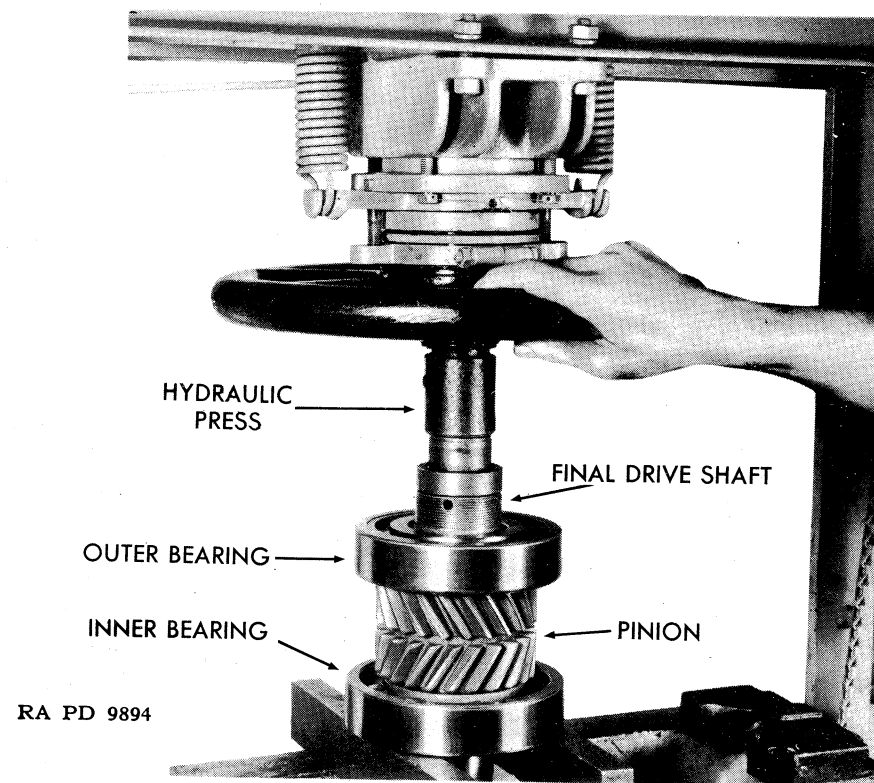

FIGURE 82—Removal of bearings and pinion from drive shaft.
(5) Remove bearings and pinion from drive shaft (fig. 82).
Secure drive SHAFT (D27413) in vise equipped with copper jaws. Remove cotter PIN (9/32 x 4½ in.). Use a 3-⁹/₁₆-in. open end wrench and remove NUT (B132938). Remove shaft from vise and place in arbor press as shown in figure 82 with the bars, under the inner bearing, placed as closely as possible to the drive shaft. Press shaft out of outer BEARING (A130733), PINION (C66170) and inner BEARING (A143816).